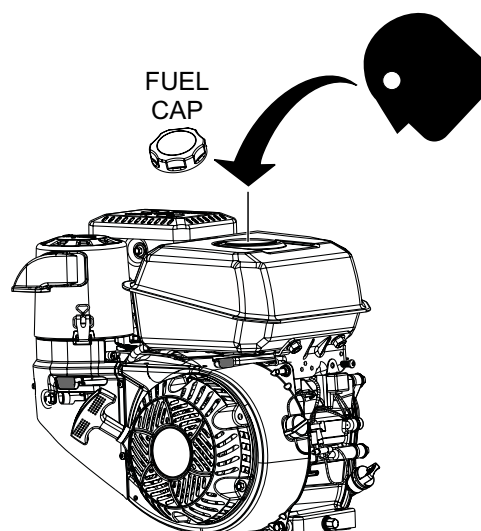

Figure 11. Fuel Tank Filler Port
1. Remove the fuel cap of the filler port located on top of the engine fuel tank (Figure 11).